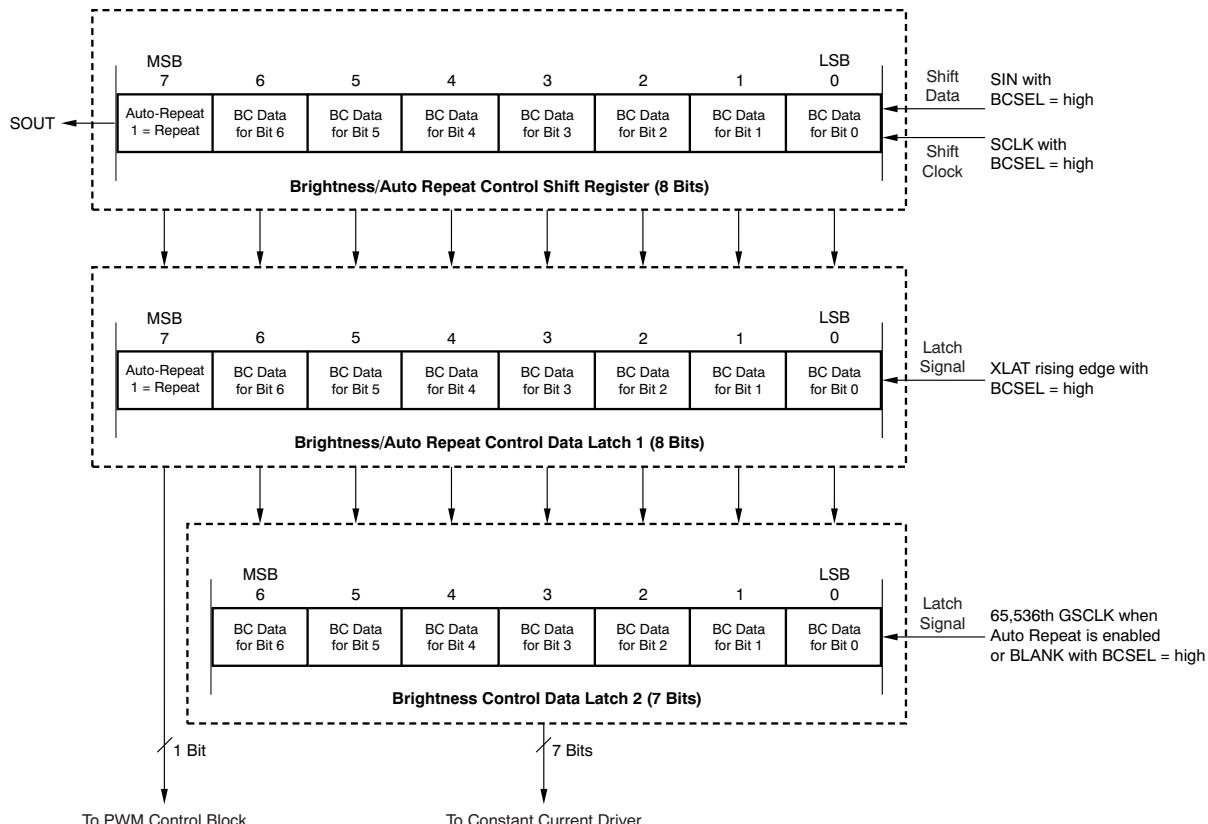

Figure 29. Brightness Control Shift Register and Latch Configuration
The Brightness Control (BC) data shift register and the first latch are each 8 bits long; the second latch is 7 bits long. The lower 7 bits in the latch are used to adjust the constant current value for all channels of the constant current driver. The MSB of the first latch is used for the auto repeat mode setting. **Table 5** shows the ratio of setting the current value against the maximum current value for each BC data point. **Figure 29** shows the shift register and latch configuration for BC data. **Figure 12** shows the timing for writing data.